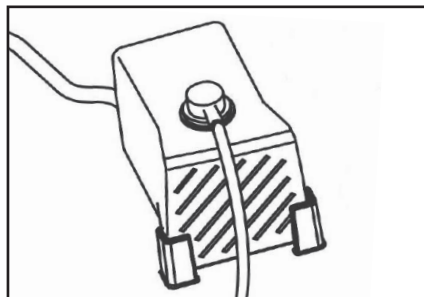

FIGURE 11
STEP 1: Make sure the *water pump* (see FIGURE 11) is not cracked or damaged in any way.